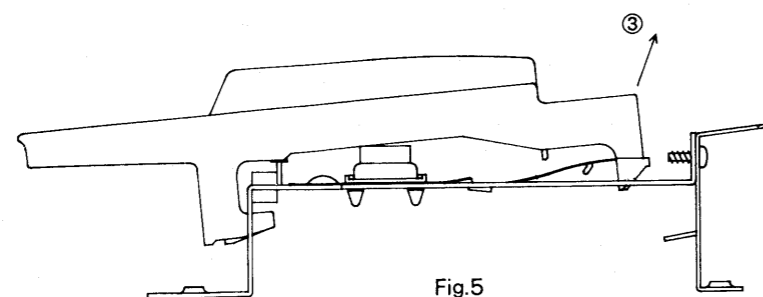

Fig.5
回路図 5
3. Taking care not to distort the spring, lift the key in the direction of ③ as shown in Fig.5.